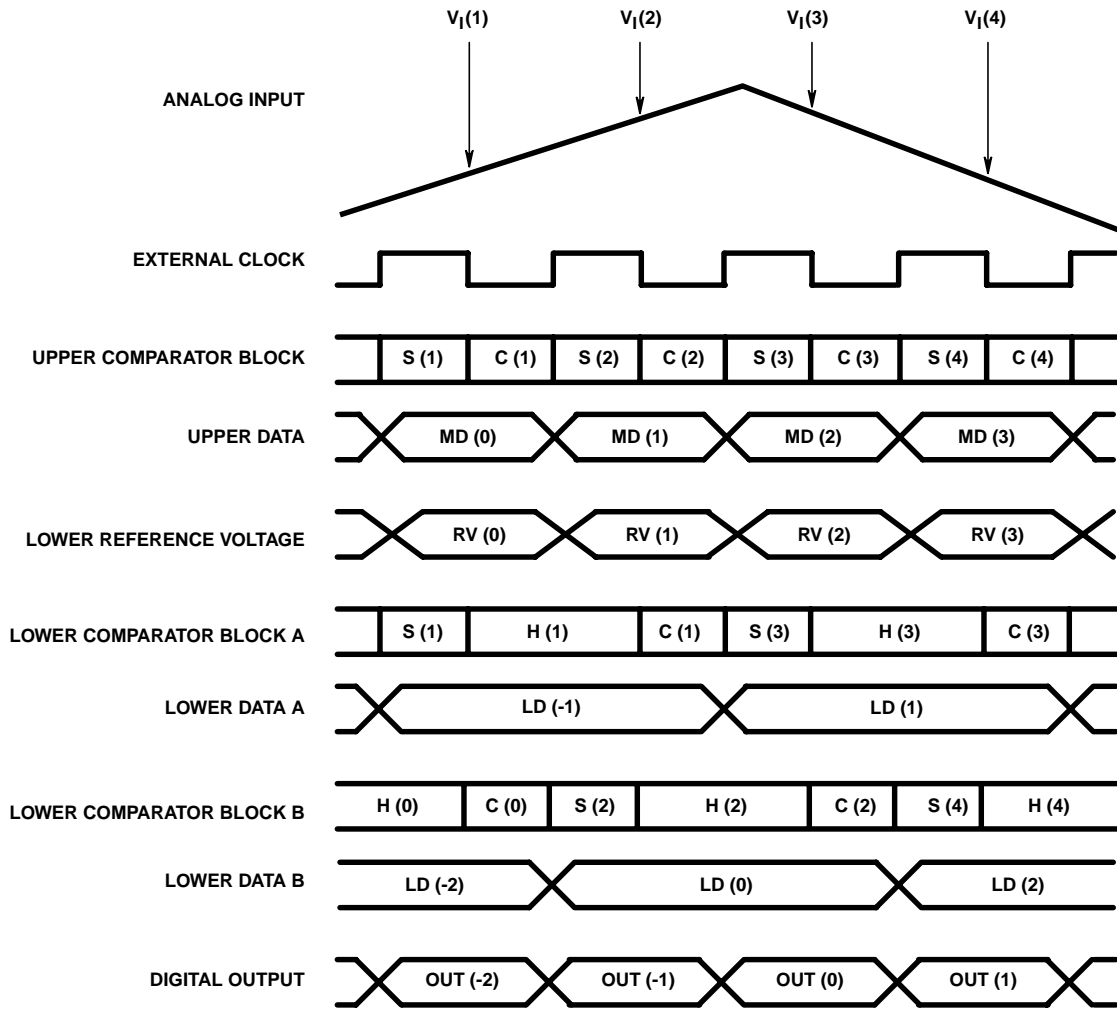

FIGURE 2.
The operation of the part is illustrated in Figure 2. A reference voltage that is between  $V_{RT}$ - $V_{RB}$  is constantly applied to the upper 4-bit comparator group.  $V_I(1)$  is sampled with the falling edge of the first clock by the upper comparator block. The lower block A also samples  $V_I(1)$  on the same edge. The upper comparator block finalizes comparison data MD(1) with the rising edge of the first clock. Simultaneously the reference supply generates a reference voltage RV(1) that corresponds to the upper results and applies it to the lower comparator block A. The lower comparator block finalizes comparison data LD(1) with the rising edge of the second clock. MD(1) and LD(1) are combined and output as OUT(1) with the rising edge of the third clock. There is a 2.5 cycle clock delay from the analog input sampling point to the corresponding digital output data. Notice how the lower comparator blocks A and B alternate generating the lower data in order to increase the overall A/D sampling rate.